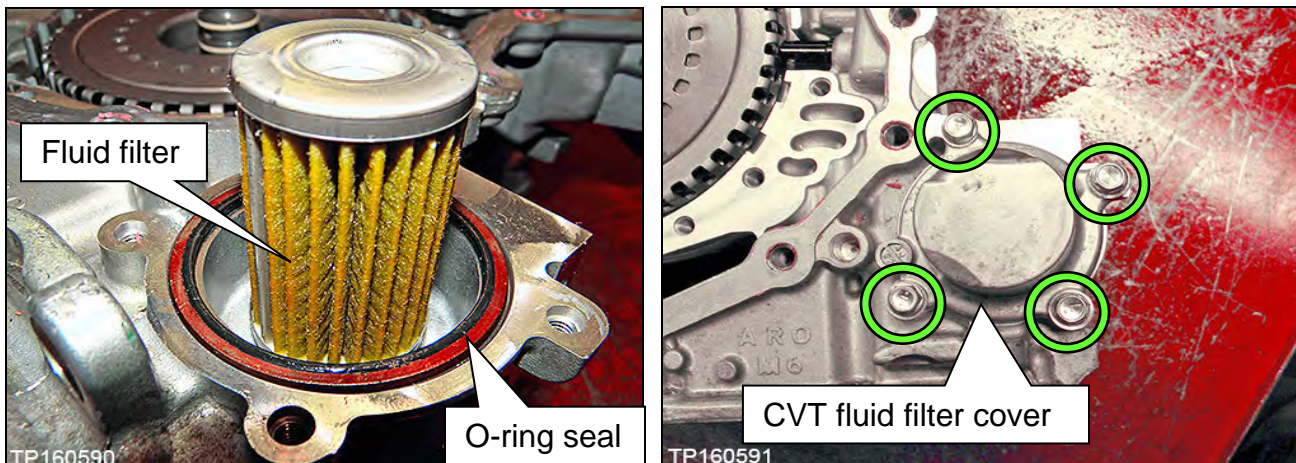

Figure 5D
6. Install the CVT fluid filter and components (Figure 5D).